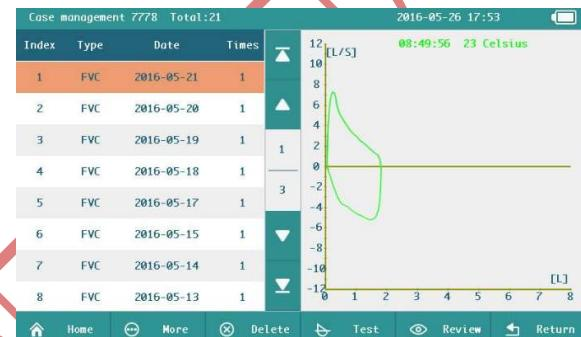

Figure 6-5
(2) At the FVC testing interface , insert the mouthpiece into the patient's mouth, exhale as hard as possible: exhale all the air in the lungs as quickly as possible, then inhale strongly: inhale as many breaths as quickly as possible in short intervals of time. This process can be repeated. The system will draw the test result waveform in real-time . Remove the mouthpiece from the mouth, the system will automatically switch to the case management interface , and the system will select the most optimum value to display, as shown in Figure 6-5.